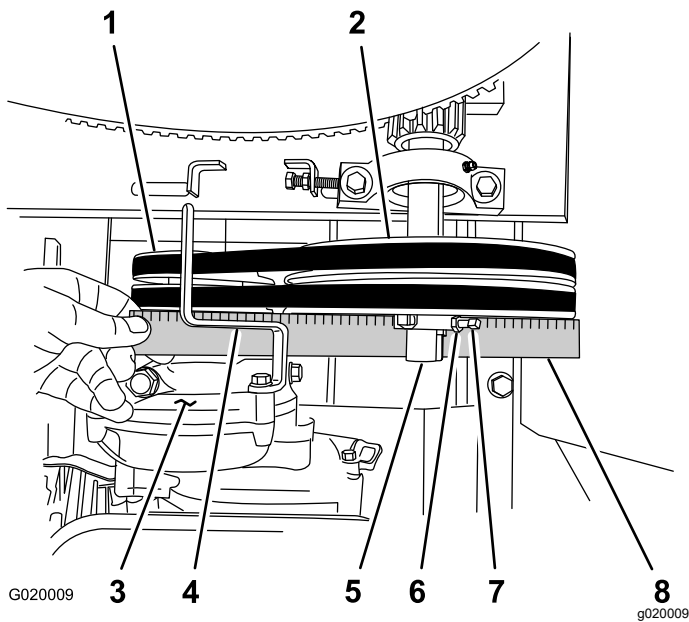

Figure 66
- E. If necessary, pivot the engine on the engine deck until the engine pulley and idler pulley are aligned to the straightedge (Figure 66).